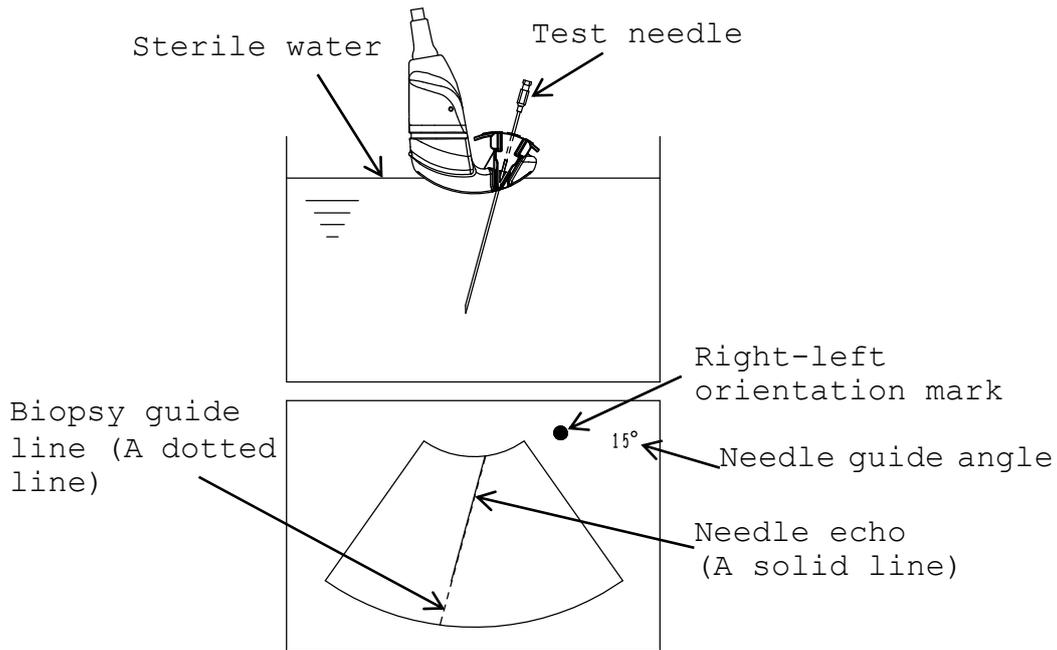

Fig.5 Echo image of test needle
- 2) Fill sterile water into a bucket and confirm that a biopsy guide line and an echo image of test needle are overlapped correctly at all selectable angles. (See Fig.5)